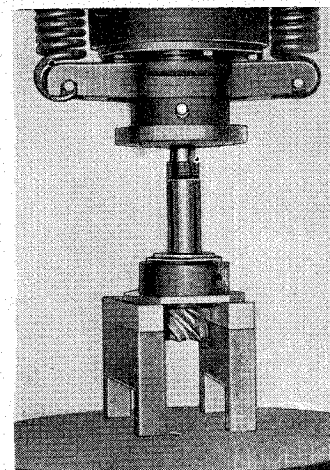

Fig. 51.
7. Remove the key from its key groove in the bevel pinion. Then press out the bevel pinion from the cup of the taper roller bearings, using a hand press (see Fig. 51).
8. Smear several teeth of the crown wheel, i. e. about three (every other from six) with thin paint. Turn the differential a few turns and then check the paint marking on the bevel pinion. If the paint marking fails to show on the driving side at the pitch line of the teeth or extend from the pitch line to about three quarters of the tooth face towards the toe (see Fig. 51), drive out from the gearbox wall the cup of the taper roller bearings complete with the bevel pinion and then add or remove the adjusting shims as necessary. The shims are available in the following dimensions: